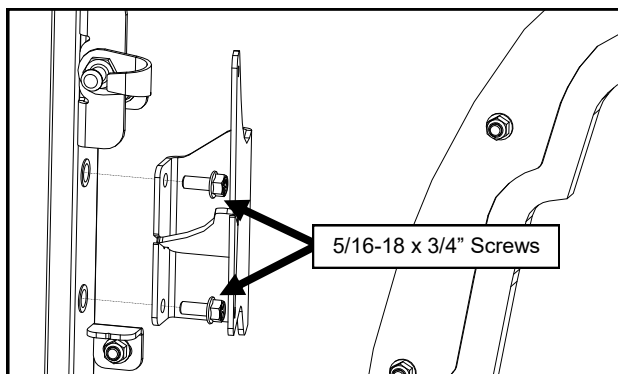

Fig. 18.1 (Install Heater Bracket to Side Frame)
18.1 Attach the heater bracket to the left side frame. See Figure 18.1. Fully tighten hardware at this time.